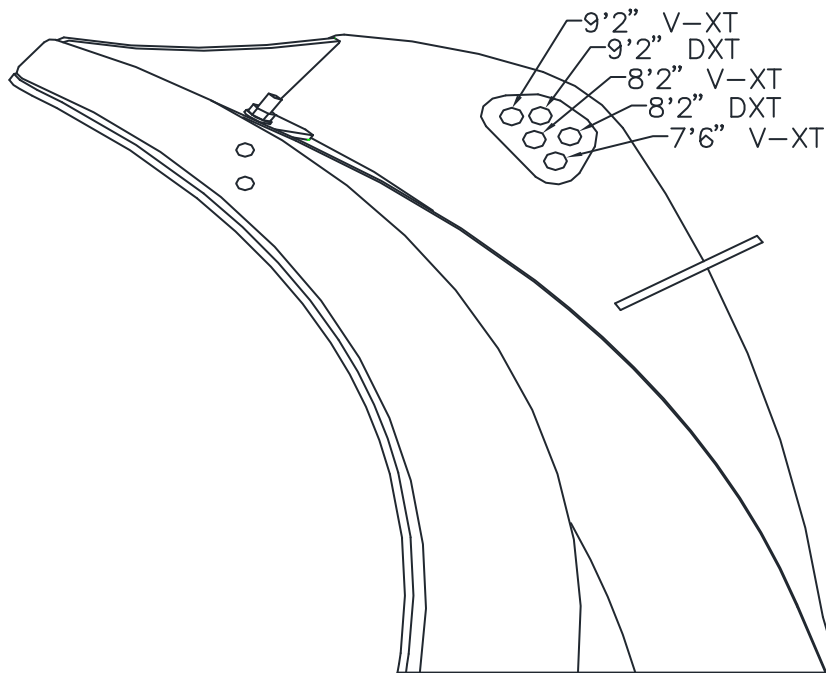

Figure 4. Individual Blade Spring Pin Location
- 11) Rotate the driver side wing (1) until the profile lines up with moldboard. Engage the spring pin through the hole corresponding to the plow type. See Figure 4. Position the driver side wing (1) so the inside rib is parallel with the outside plow rib and the universal cutting edge (9) is contacting ground. Tighten all fasteners.